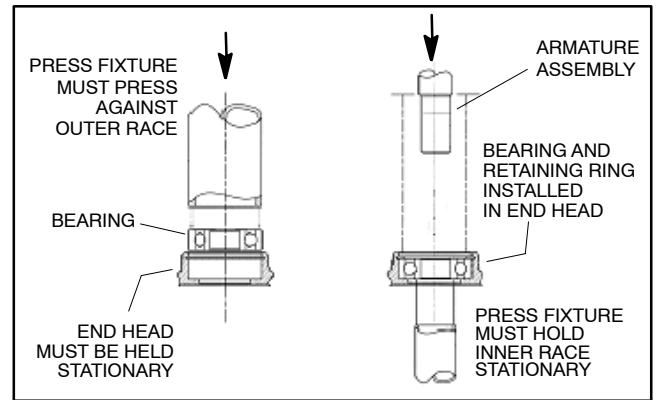

Figure 61
2. Press a new bearing into the commutator end head, pressing on the bearing outer race only (Fig. 61). Secure bearing with retaining ring.
3. Position the commutator end head to the frame and field assembly and secure with four (4) bolts. Torque bolts from **120 to 140 in-lb (13.6 to 15.8 N-m)**.
5. While supporting the inner-race of the bearing in commutator end head, carefully press the armature into the end head and bearing assembly (Fig. 61).